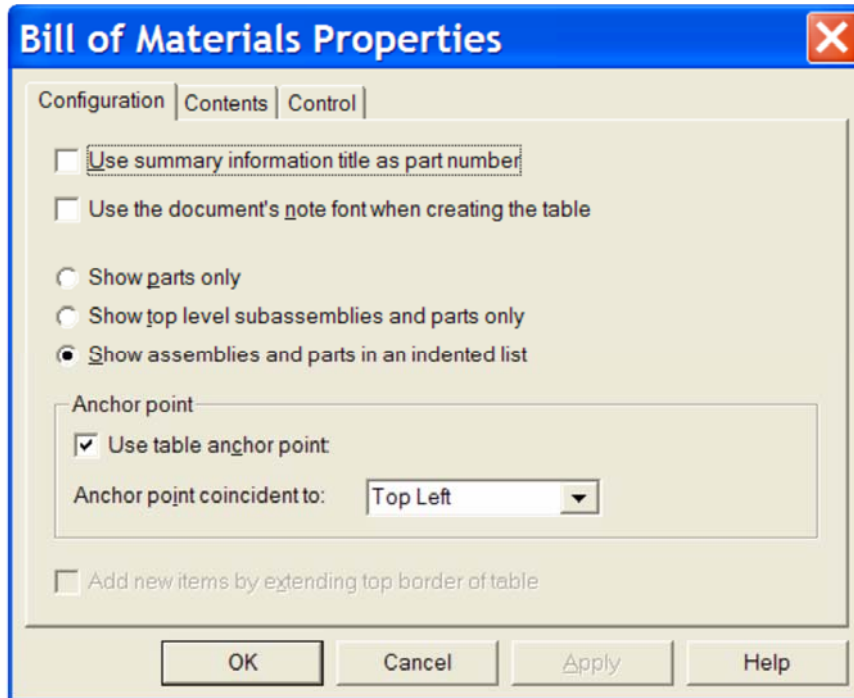

Figure 7
14. From the select 'Template Window' accept the default template, 'bomtemp.xls'. The 'Bill of Materials Properties Window' opens. See Figure 7.